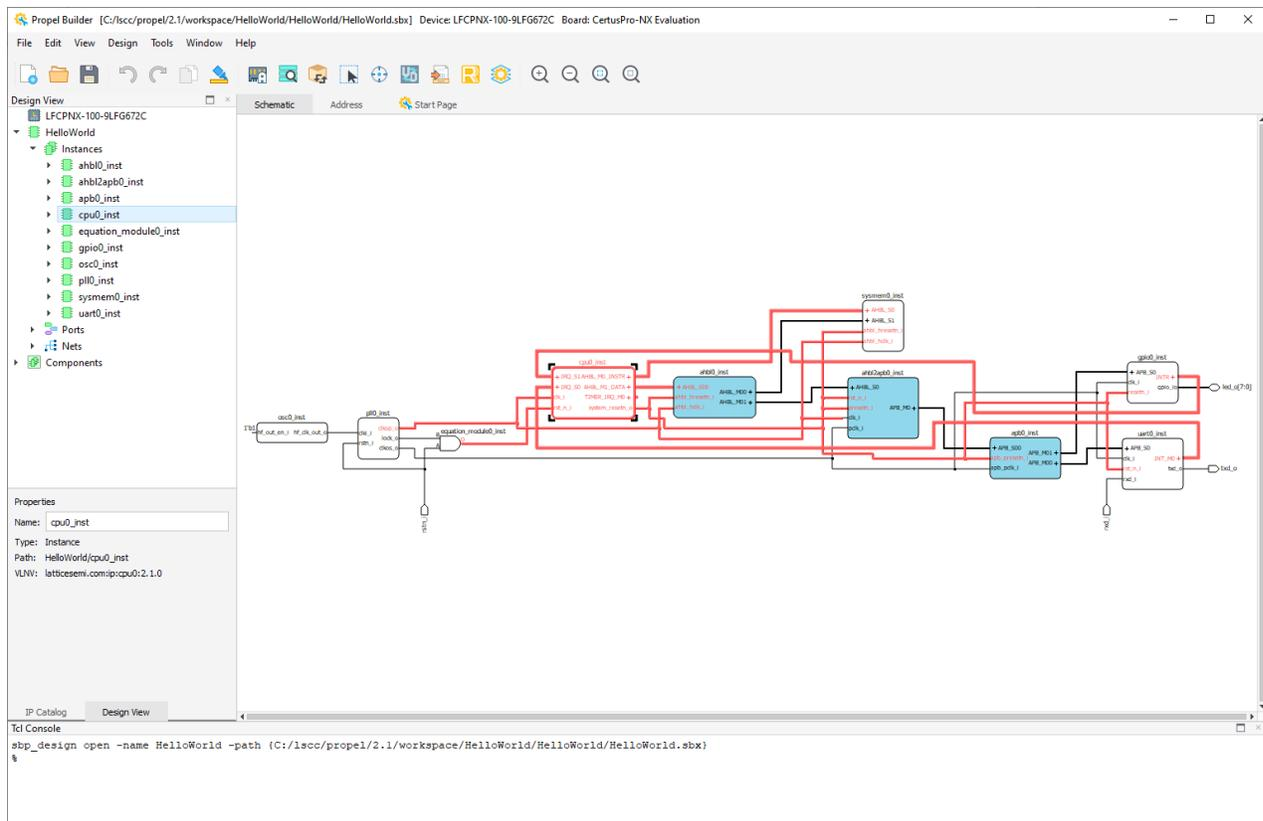

Figure 2.44. Show Connectivity of the Module
- To show the connectivity of a module: right-click the module and choose **Show connectivity**. All nets connected to the module, all pins and ports connected to the nets are highlighted (Figure 2.44).